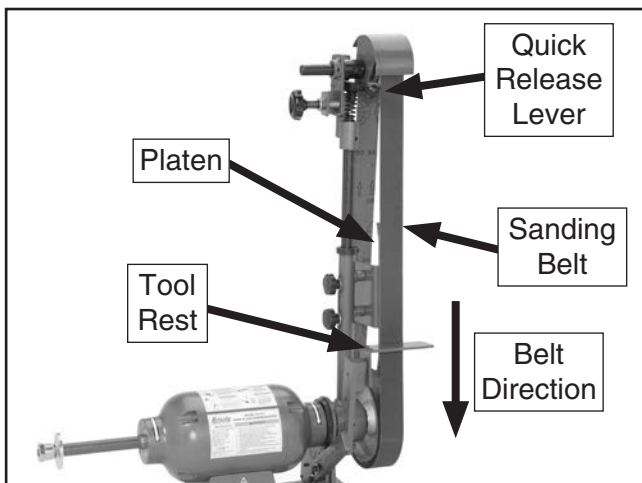

Figure 18. Sanding belt installed.
2. With the direction arrows printed on the inside front of the belt facing down, pull down on the quick release lever and wrap the belt around idler and drive wheels so that it is centered on both, as shown in **Figure 18**, then release the lever.
Note: *To prevent the belt seam from catching on the workpiece, install the belt so that the direction arrows printed on the inside face of the belt follow the belt rotation, as shown in **Figure 18**.*